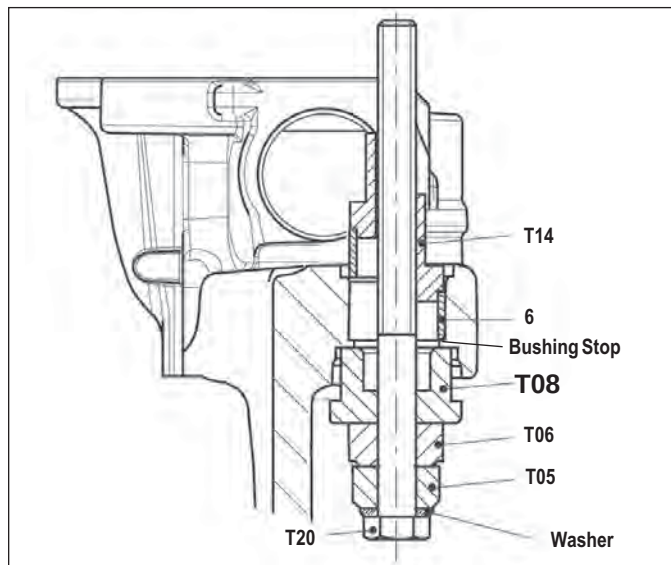

FIGURE 80 - GUIDE PIN BUSHING INSTALLATION
5.6.27 Use the tool combination shown in Figure 79 to draw the bushing (6) into the caliper. See also Figure 80, to see the orientation (with tool T14 at the top). Hand tighten the nut (T14) into position. Then tighten the bolt (T20) using a box end wrench or socket to draw the bushing (6) into the caliper until the bushing (6) contacts the machined step in the bore. Remove the tool.